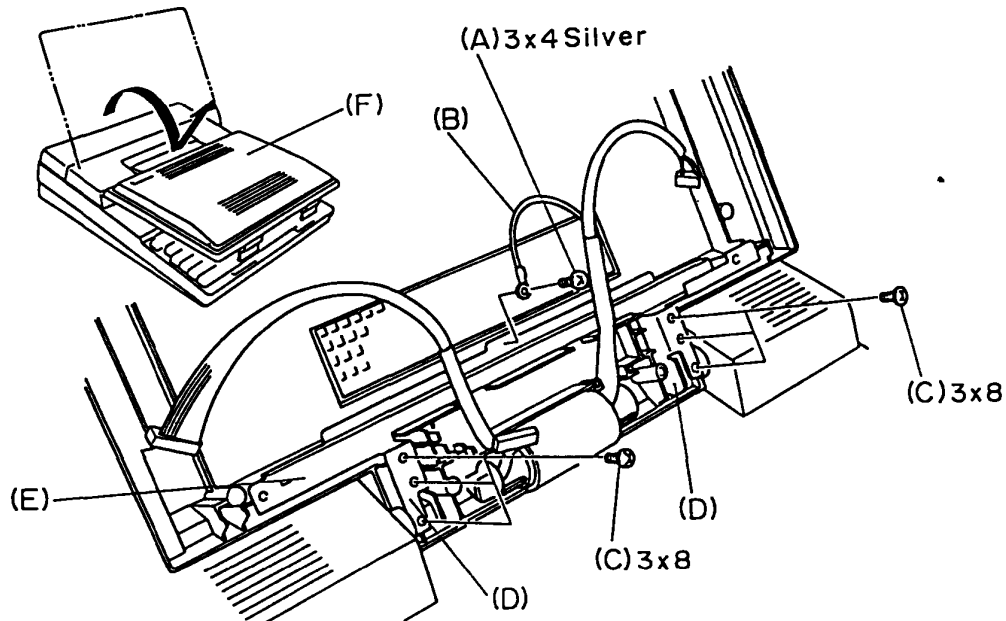

Figure 4-13 Removing the LCD cover assembly
2. Remove the two 3x4 silver screw (A) and then remove the ground cable (B).
3. Remove the six 3x8 screws (C). Then remove the two shaft holders (D) and reinforce plate (E), shown in Figure 4-13.
4. Remove the LCD cover assembly (F) from the computer while rotating the LCD cover assembly forward.